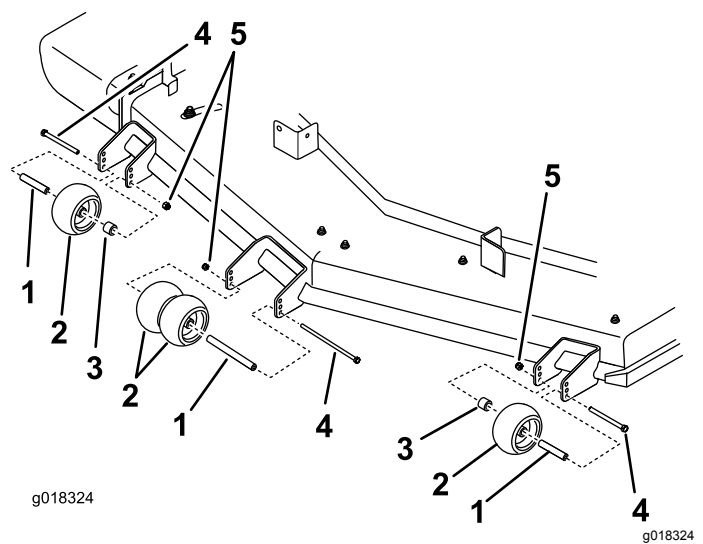

Figure 27
4. Ensure that the spacers and bushings are installed (Figure 27).